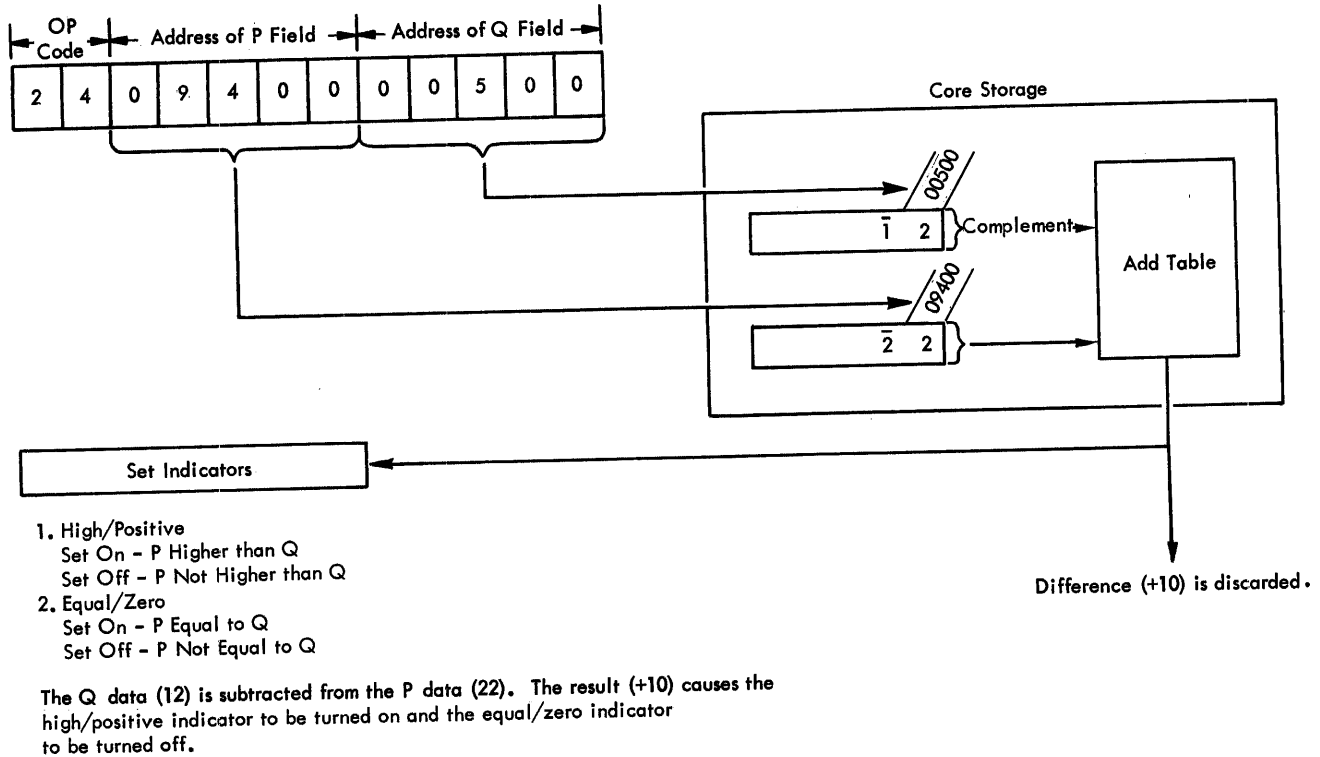

Figure 20. Compare Operation
In Figure 20, the Q address data (12) is subtracted from the P address data (22). The difference (+10) is discarded and the indicators are set as follows: